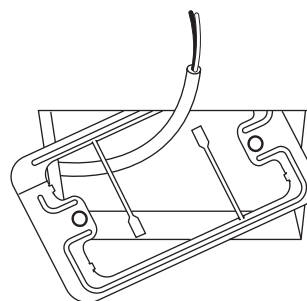

Fig. 1-103
- (1) Remove the cover plate by inserting a flathead screwdriver into the notch in the lower section and prying it off.
- (2) Cut out a section (3-3/4"x2-1/32") on the ceiling using the paper pattern (supplied) as a guide.
- (3) Run the wire through the mounting carrier and insert into the installation hole as shown in Fig. 1-103.